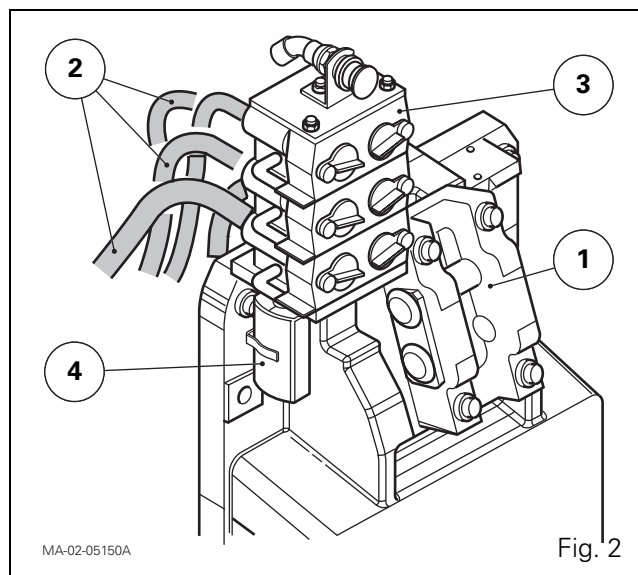

Fig. 2
2. Remove the oil-recovery tank or tanks (4), depending on the hydraulic version, for the hydraulic couplings (3) (Fig. 2).
4. Mark the position of the hoses (2). Disconnect them from the hydraulic couplings (3) (Fig. 2).
5. Disconnect the low pressure (17 bar) and lubrication pipes from the PTO clutch, which are located at the rear right-hand side of the PTO housing (1) (Fig. 2).